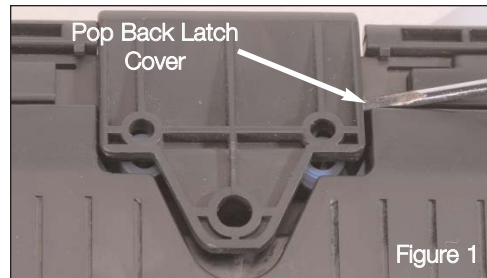
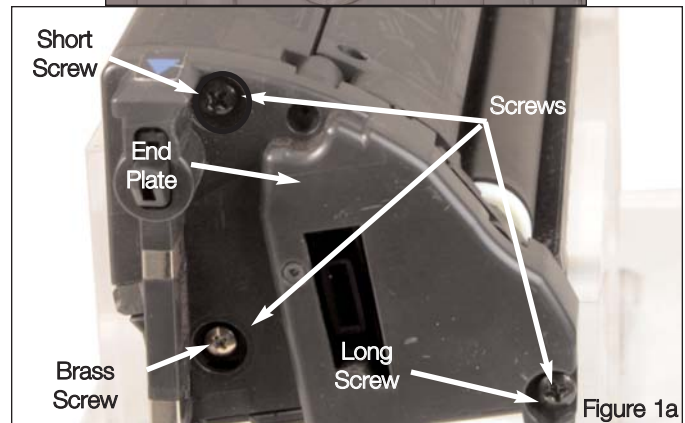

Figure 1
Figure 1a
1. Pop the back of the Latch cover back using a small flathead screwdriver as shown in Figure 1. Then place the Toner Cartridge in to the Hopper Jig (HP25HJIG), with the contact end of the cartridge facing you. See Figure 1a.